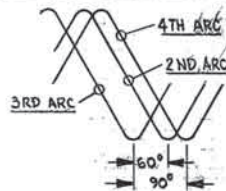

FIG. 1
- 3.) CONNECT THE SCOPE INPUT TO EACH AC NOZZLE AND NOTE THE TIME OR PHASE DIFFERENCE BETWEEN ALL THREE. THEY SHOULD LOOK LIKE FIG. 1.